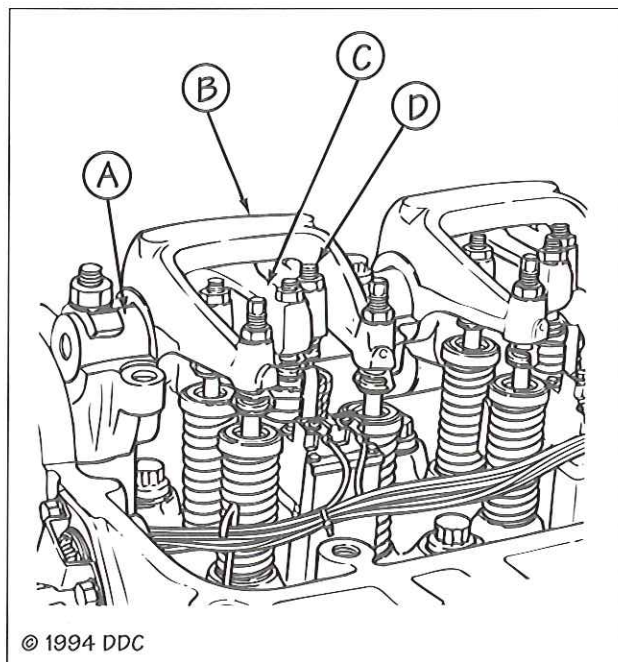

FIG. 9
Clean the engine thoroughly and remove the rocker cover and gasket. Note the location of the rocker arm shaft (A), the exhaust valve rocker arm (B), the fuel injector rocker arm (C), and the intake valve rocker arm (D) (see Fig. 9).